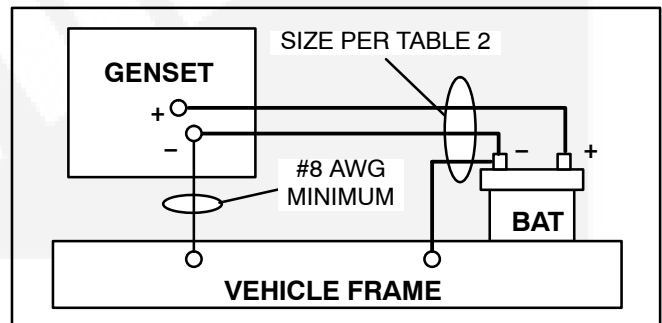

FIGURE 18. FULL-LENGTH CABLE FROM BATTERY NEGATIVE (-) TERMINAL
Size battery cables according to Table 2. The current path between the genset and the negative (-) battery terminal must also be able to carry full cranking current without causing excessive voltage drop. It is highly recommended that a full-length cable be used to connect the genset to the negative (-) battery terminal (Figure 18). Note also that codes may require bonding conductors from the genset and the battery to the vehicle frame.
- A. Measure genset inlet air temperature with one thermocouple tied in the middle of the inlet air grille (Figure 18).